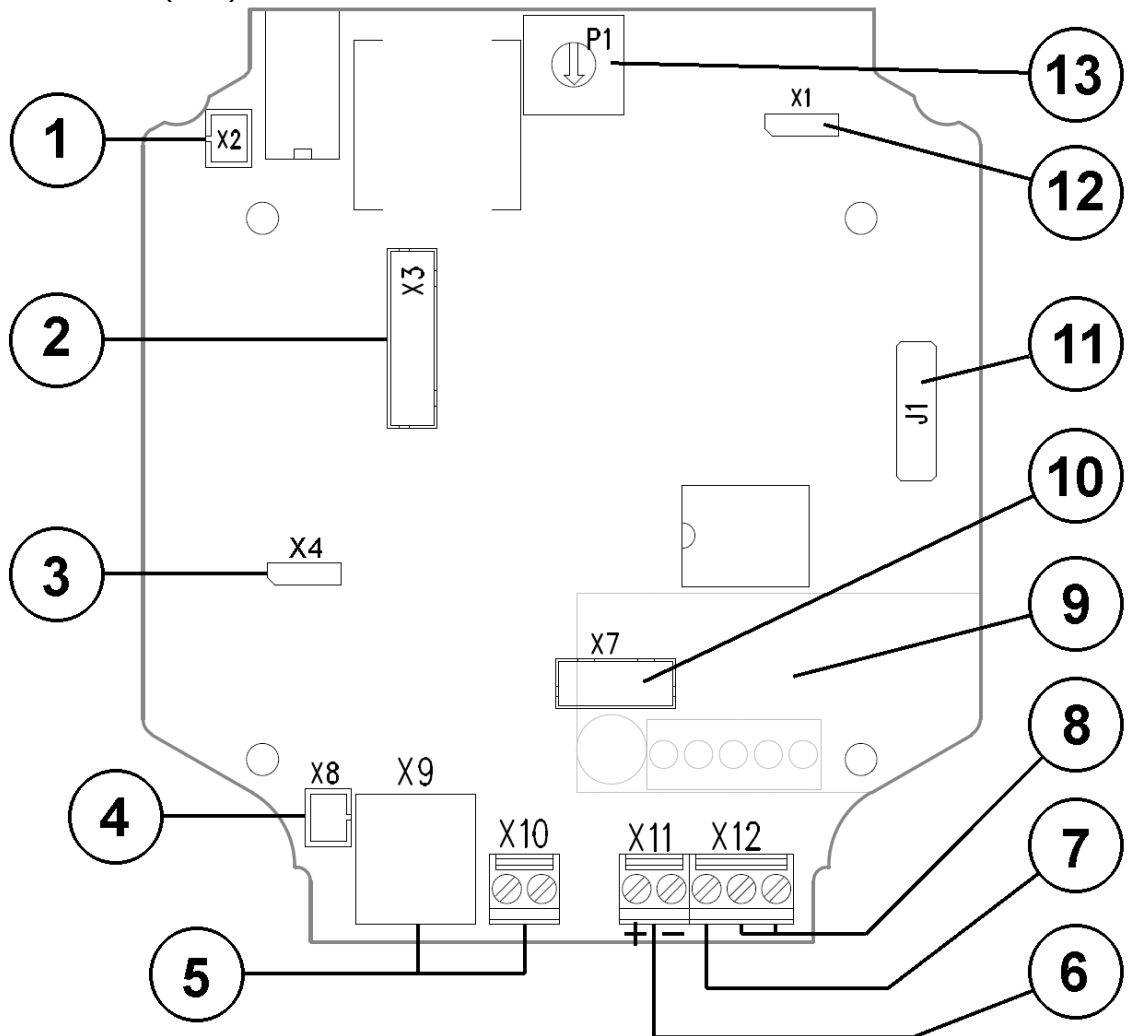

Figure 2.11 2N® Helios Force / Safety Connectors, PCB Version 3
**Fig. 2.11** shows the lay-out of connectors on the 2N® Helios Force / Safety printed circuit board (PCB).